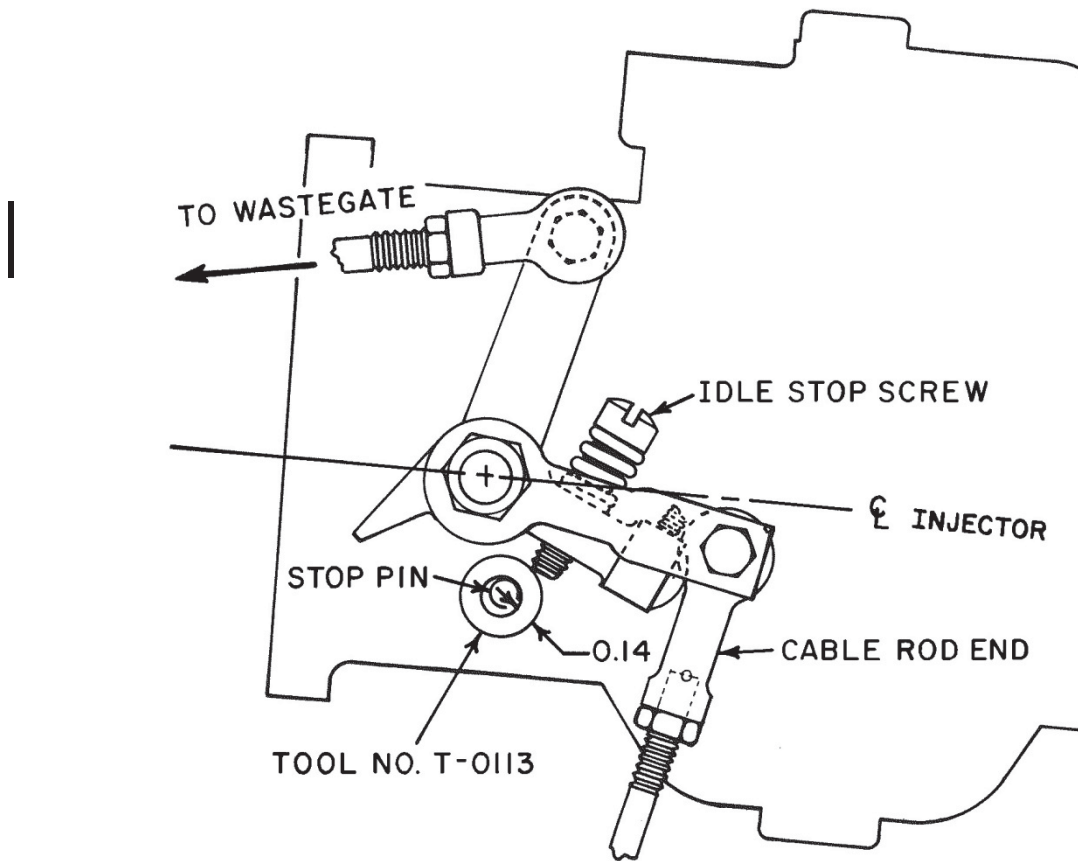

Figure 13-28. Fuel Servo with Tool No. T-0113 Installed
- (b) Rotate throttle twist grip open enough to insert a 0.14 ± .01 inch thick shim or tool No. T-0113 between idle stop screw and stop pin on injector (Figure 13-28). Rotate twist grip against shim and maintain pressure during step 3-c.
- (b) Rotate throttle twist grip open enough to insert a 0.14 ±.01 inch thick shim or tool No. T-0113 between idle stop screw and stop pin on injector (Figure 13-28). Rotate twist grip against shim.